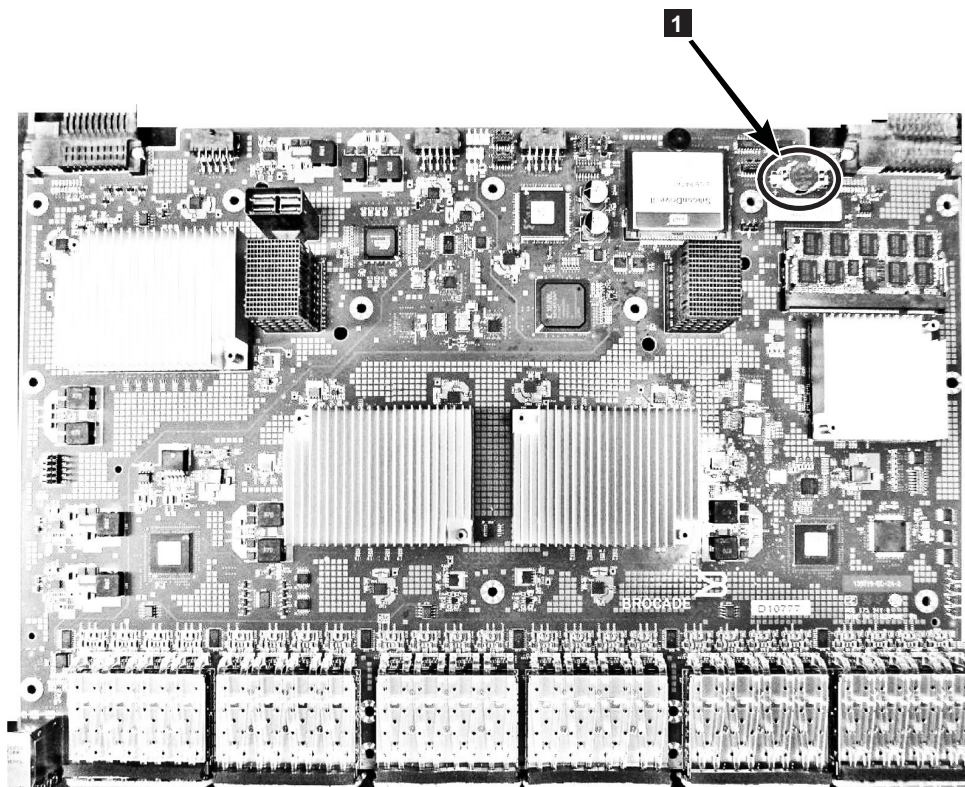

Figure 19. Location of battery holder
5. On the main circuit board, go to location **1** shown in Figure 19 and remove the BR1225 battery from the holder.